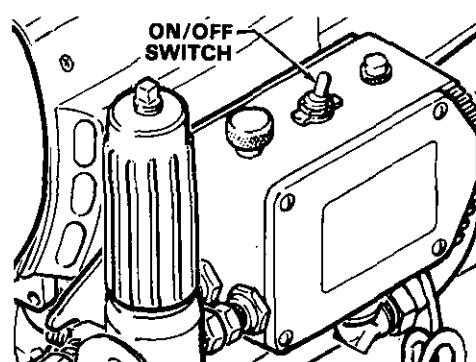

Fig 4
- a. Be sure the ON/OFF switch is OFF. Refer to Fig 4.